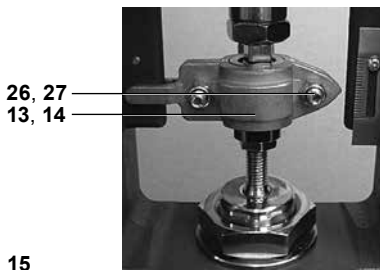

Fig. 15
- Apply just enough air pressure to open the valve fully (see Figure 15).
- Turn off the air supply and allow the actuator to retract fully (see Figure 15).